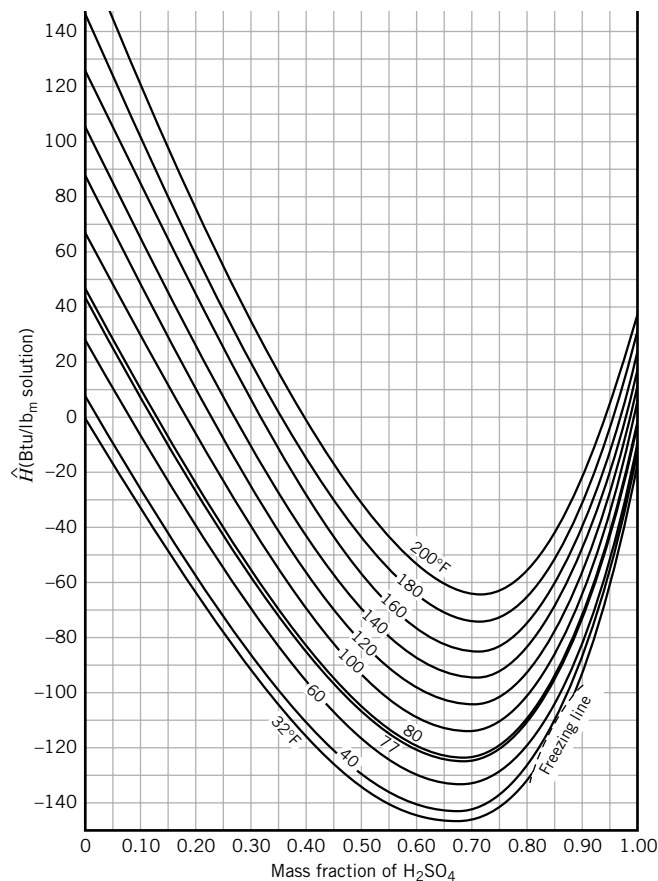

Figure 8.5-1 Enthalpy–concentration chart for H_2SO_4 – H_2O . (Redrawn from the data of W. D. Ross, *Chem. Eng. Progr.*, **43**:314, 1952.)
Energy balance calculations on liquid-phase systems involving mixtures can be cumbersome when heats of mixing are significant. The calculations can be simplified for binary (two-component) systems by using an **enthalpy–concentration chart**, a plot of specific enthalpy versus mole fraction (or mole percent) or mass fraction (or weight percent) of one component. An \hat{H} - x chart for aqueous solutions of sulfuric acid at several temperatures is shown in Figure 8.5-1. The reference conditions for the plotted enthalpies are pure liquid H_2SO_4 at 77°F and liquid water at 32°F.
The points on the isotherms of Figure 8.5-1 were determined using the procedure outlined in the last section. Suppose, for example, you wish to calculate the specific enthalpy (Btu/lb_m) of a 40 wt% sulfuric acid solution at 120°F. If you know the heat of mixing of sulfuric acid at 77°F, the process path you would follow would be to bring pure liquid water from its reference temperature of 32°F to 77°F (the sulfuric acid starts at 77°F and so does not require this step), mix the two liquids at 77°F, bring the product solution to 120°F, and calculate and add the enthalpy changes for each of these steps.
(Verify that this is the value shown in Figure 8.5-1.)
Once someone has gone to the trouble of preparing an enthalpy-concentration chart like that of Figure 8.5-1, energy balance calculations become relatively simple, as shown in Example 8.5-2.
From Figure 8.5-1:
A straight line on Figure 8.5-1 between points at ($x = 0, T = 60^\circ\text{F}$) and ($x = 0.80, T = 60^\circ\text{F}$) goes through the point ($x = 0.23, T \approx 100^\circ\text{F}$). (Verify this result.)
Use Figure 8.5-1 to answer the following questions.
2. The 100 wt% intercepts of the isotherms on Figure 8.5-1 are difficult to read. Which isotherm must have an intercept of 0 Btu/lb_m? (Your answer should be a temperature.)